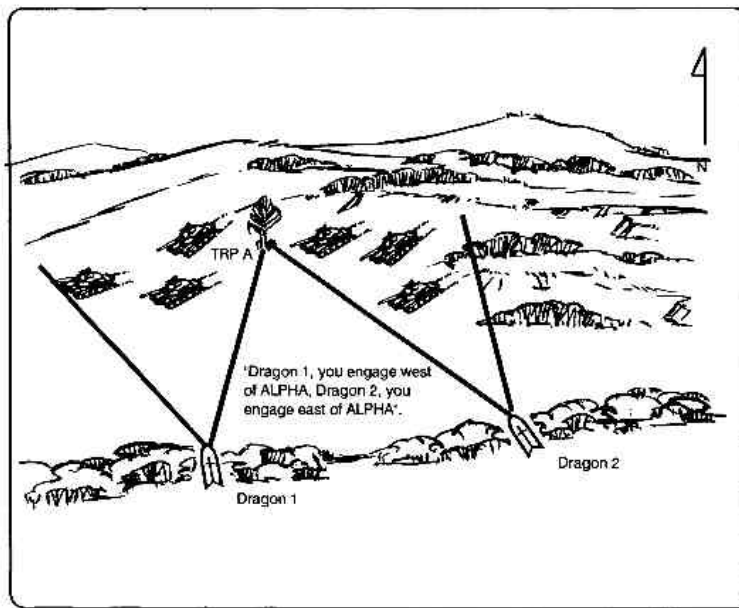

Figure 3-24. Use of target reference point.
c. Target Reference Point. A TRP is an easily recognizable point on the ground, either natural or man-made. The TRP is used as a reference point for locating targets and controlling fire. They are normally all referenced by a lettering or numbering system. TRPs are also used to control and shift fires; that is, "Dragon One, engage west of ALPHA. Dragon Two, engage east of ALPHA, on my command." (See Figure 3-24.)